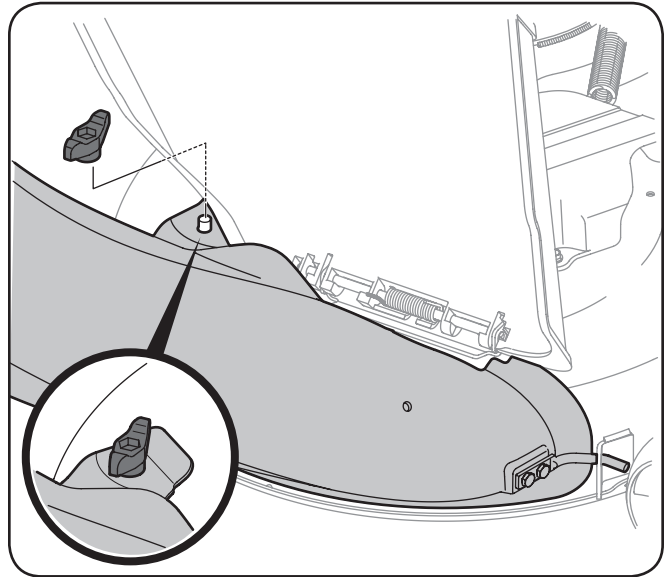

Figure 4-15
- Secure the chute elbow to the deck using the wing knob 720-04122 from hardware pack 689-00318A. See Figure 4-15.